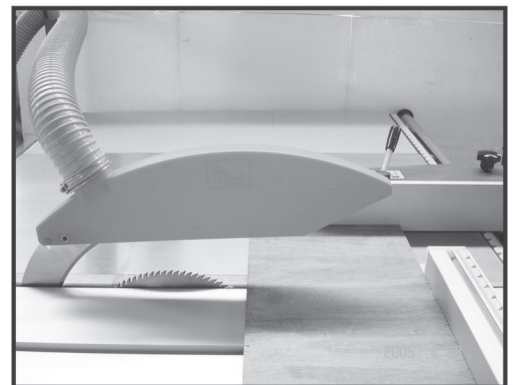

Fig. 45
1. Install the crosscut fence in the rear mounting points (Fig.45) and lock it in place.
4. Slide the leading end of the rip fence behind the back edge of the blade. (Fig.45)